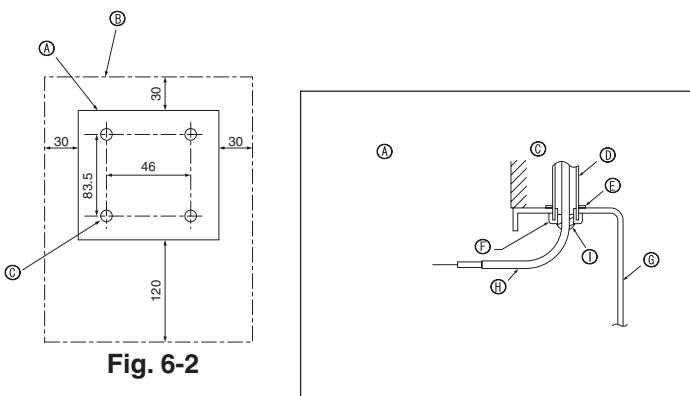

Fig. 6-2
- (1) Select an installing position for the remote controller. (Fig. 6-2)
[Fig.6-2]